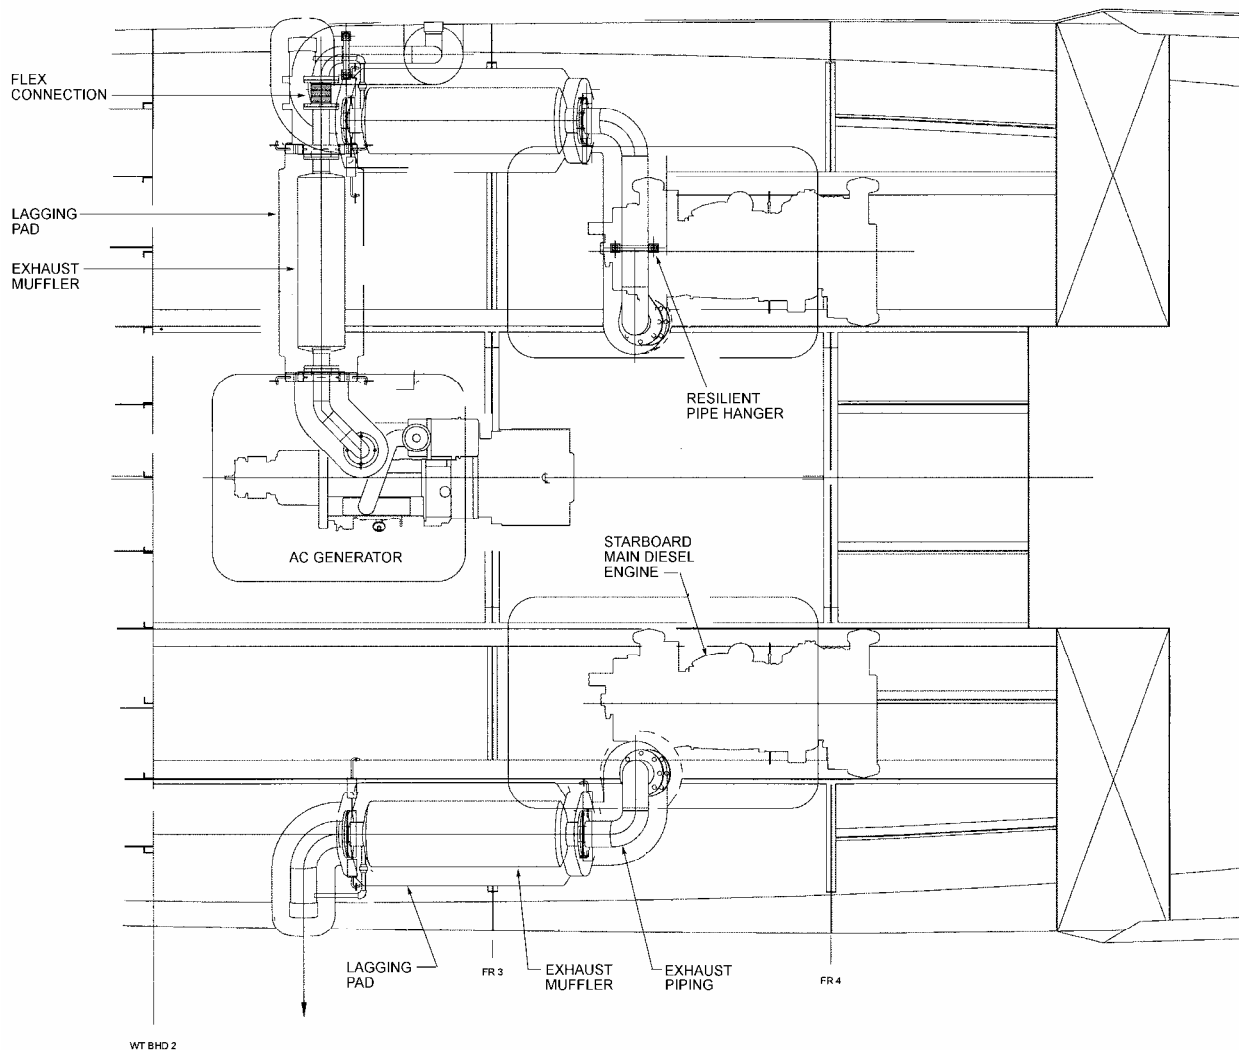

Figure 3-14
D.14. General The main diesel engines each utilize a separate, dry type exhaust system (**figure 3-14**).